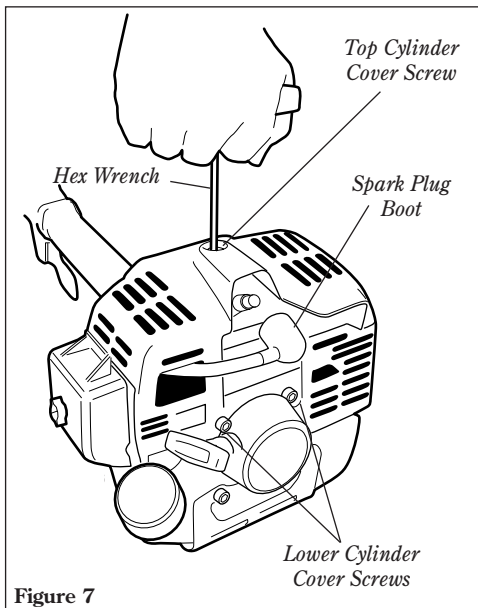

Figure 7
3. Loosen the top cylinder cover screw until the cover is free of the engine. (The top cylinder cover screw is captive). Lift the cylinder cover off of the engine. See Figure 7.